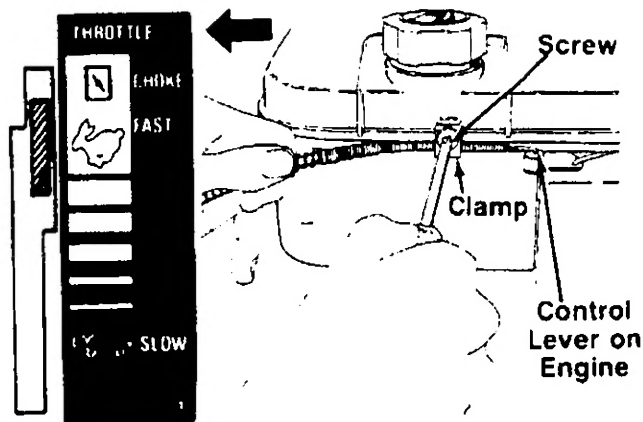

FIGURE 6A.—Models 464R & 474R
1. Push the throttle control lever on the handle all the way forward to CHOKE, then back it off two "clicks" (approximately 5/16"). See figure 6A.
2. The throttle control cable is attached to the upper handle. Route the throttle control cable under the lower handle and inside the handle mounting bracket. Hook the "Z" end of the throttle control cable into the hole in the control lever on the engine. See figure 6A.
3. Using a screwdriver, remove the screw on the cable clamp shown in figure 6A. Slip the control cable under the clamp. Replace the screw, but do not tighten (cable must still move freely beneath the clamp).
4. Push the control lever on the engine as far toward the rear of the engine as it will go. See figure 6A. Pull the throttle control cable toward the rear of the engine to remove any slack in the cable as you tighten the screw.